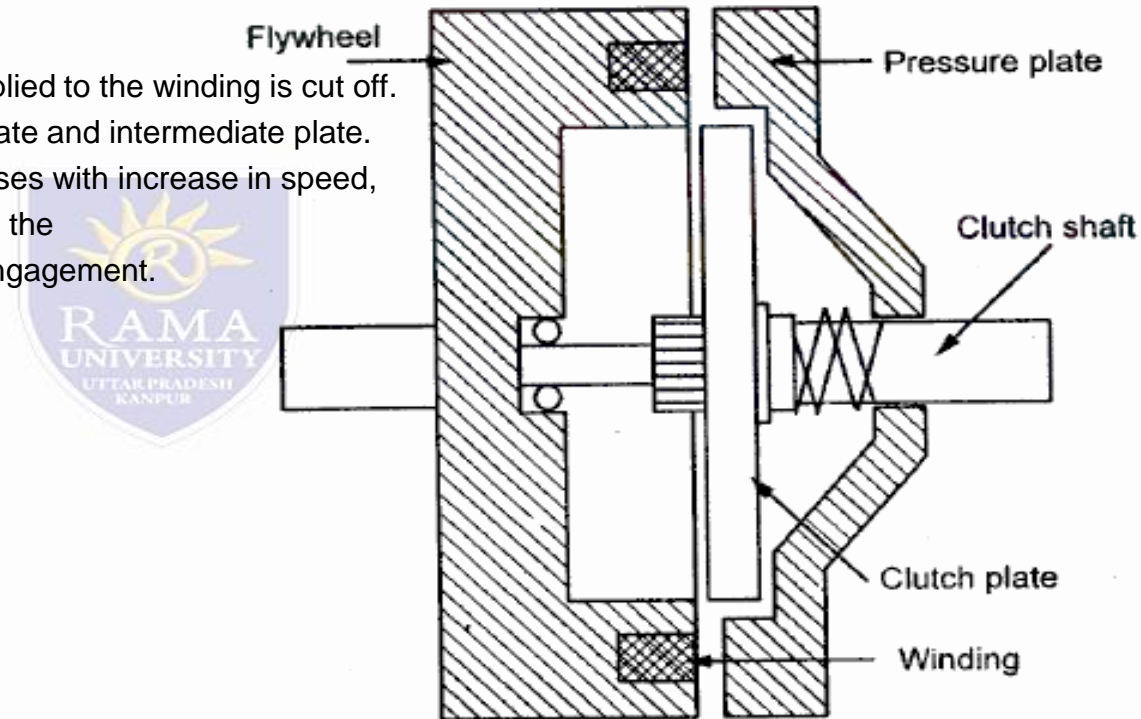

Figure 3.13 Electromagnetic clutch
- It is free to move on splines of the gearbox shaft. A pressure plate is applied for engaging or disengaging the clutch. Figure 3.13 shows the simplified diagram of this type of clutch.